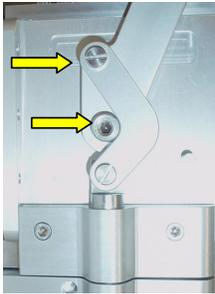

Figure 5-14: Removing the Hydra DT tip clamping handle
1. In order to place the syringe head properly into the case, the handle will have to be removed. Loosen and remove the socket-head screw with a 5/32-inch Allen wrench on both sides of the head. Then loosen and remove the upper flathead screws from the clamping mechanism as shown. The handle should come free easily. See Figure 5-14.